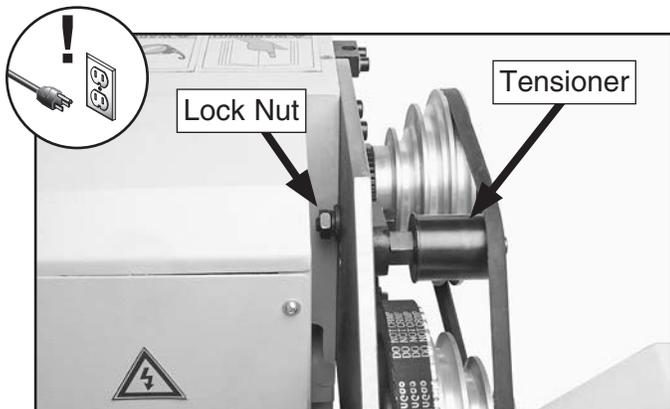
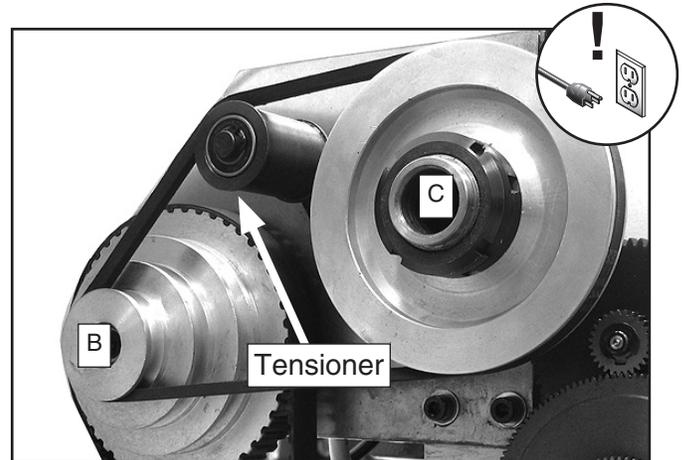

Figure 96. Model G0602 tensioner and lock nut.
Figure 100. Model G0602 low-range belt.
3. Loosen the tensioner lock nut (Model G0602/G0602Z) or tensioner lock bolt (Model G0752/G0752Z) shown in **Figures 96–97**.
—If the *low range belt* between pulleys **B** and **C** (see **Figure 100**) needs to be replaced, loosen the tensioner lock nut (see **Figure 96** on **Page 63**), move the tensioner down, roll the belt off the pulleys, then re-install the new V-belt. Follow **Steps 4-5** on **Page 63** to tension the belt.